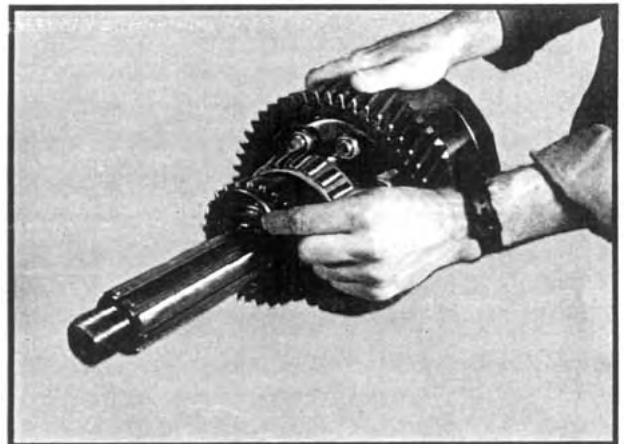

Fig 28
1. Remove the retaining ring from the front output shaft. See Figure 28